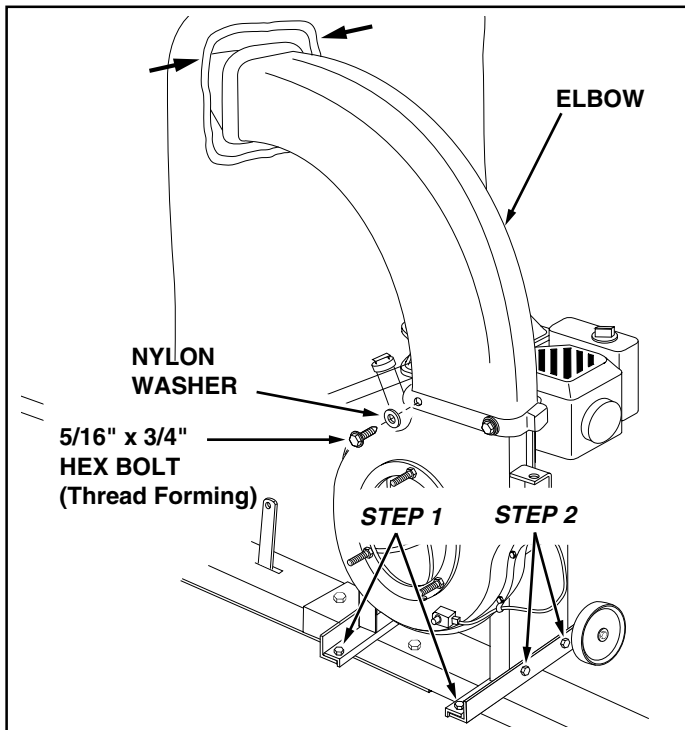

FIGURE 17
32. Assemble the elbow to the impeller housing using four 5/16" x 3/4" thread forming bolts and four nylon washers. Push while turning to help start the bolts into the unthreaded holes. **Tighten.** See figure 17.